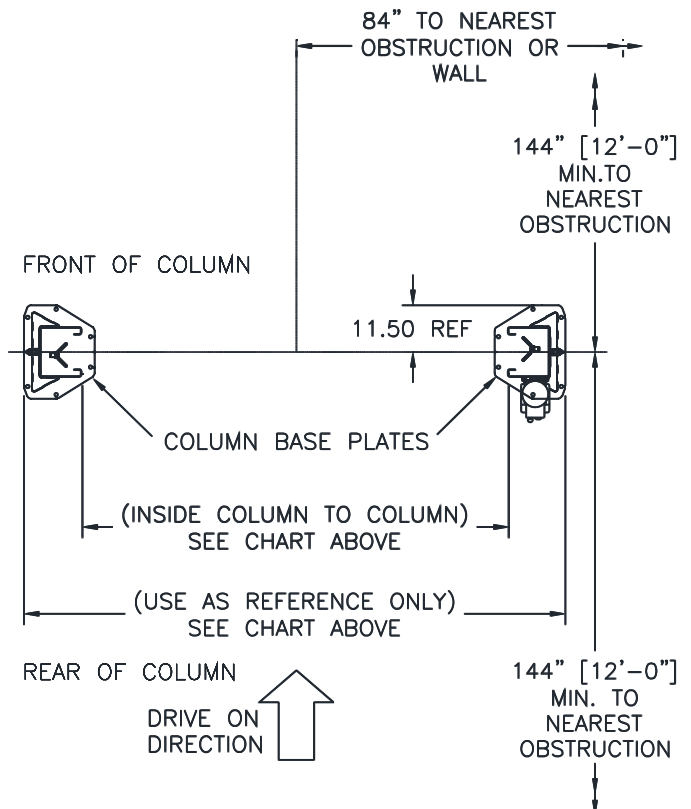

Fig1b - Service Bay Layout
- 5) Layout the service bay according to the architect's plans or owner's instructions (see Fig 1b). Failure to install in this orientation can result in personal and property damage. Be certain that the proper conditions exist, see page 3.